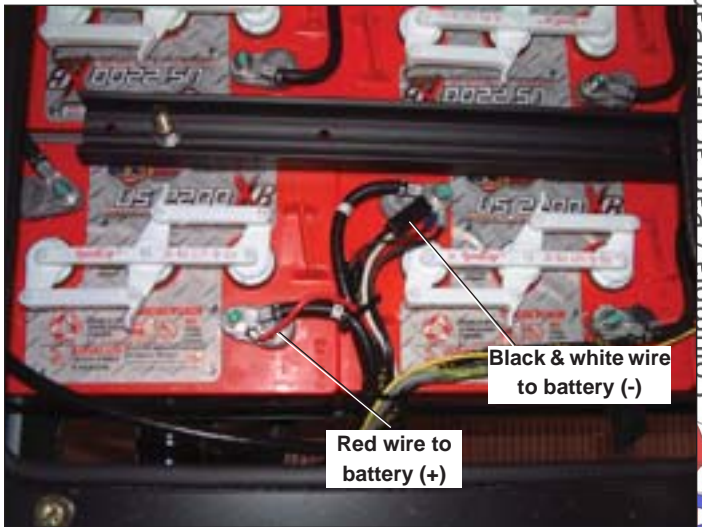

Figure 8-8. Battery Wires
2. Disconnect wires (Red, and Black & White together) in charger output lead from battery B- and battery B+ (Figure 8-8). Disconnect green safety interlock wire.
3. Install charger output electrical leads as follows; black and white to battery B-, red wire to battery B+. See Figure 8-8. Reconnect green safety interlock wire. Vehicle will not operate if wire is not attached.